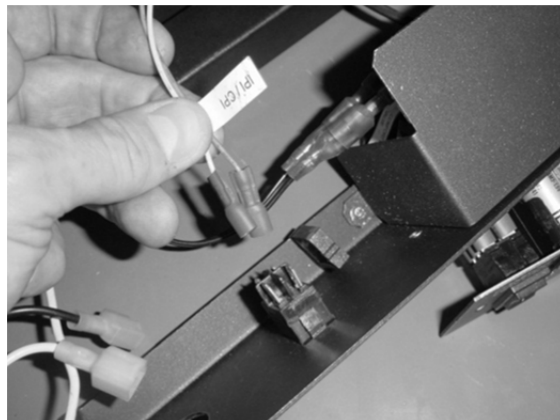

Figure 8
- 5 Disconnect the two leads on the back of the control panel for the IPI / CPI switch (continuous pilot / greensmart pilot – see Figure 8).